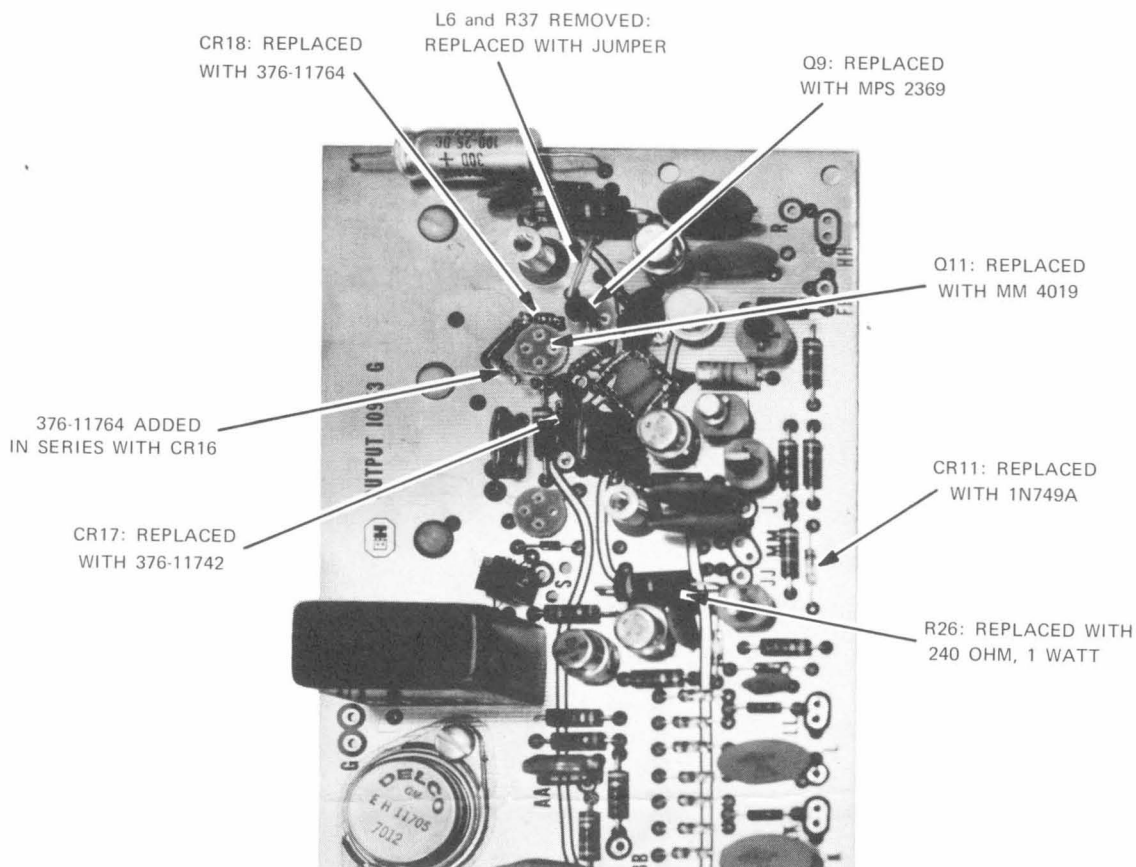

Figure 1. Output Board, Component Side (After Modification)
3. On the component side of the output board, remove and discard Q9 and Q11. See Figure 1.